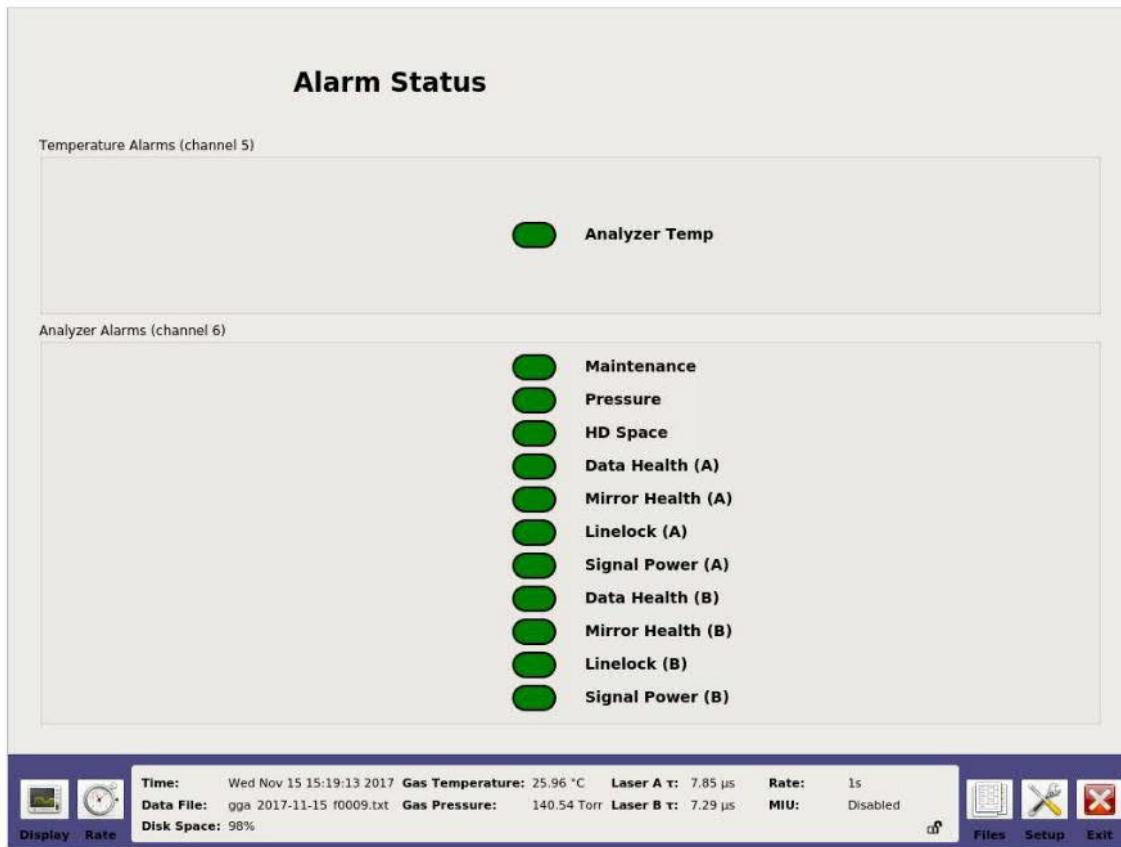

Figure 20: Alarm Status
- *Alarm Status Display*– shows the operational status of the analyzer. (Figure 20)
The *Alarm Status* display (Figure 20) shows the detailed operational status of the analyzer.
Figure 20 shows the *Alarm Status Display* with all parameters functioning properly.